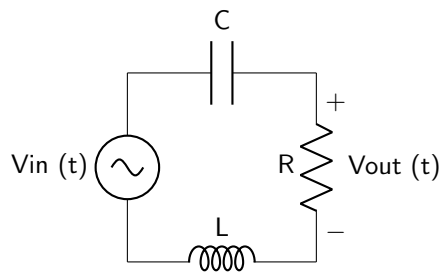

Figure 11.4: Filter circuit diagram.
4. What type of filter is shown in figure 11.4? How do you know?